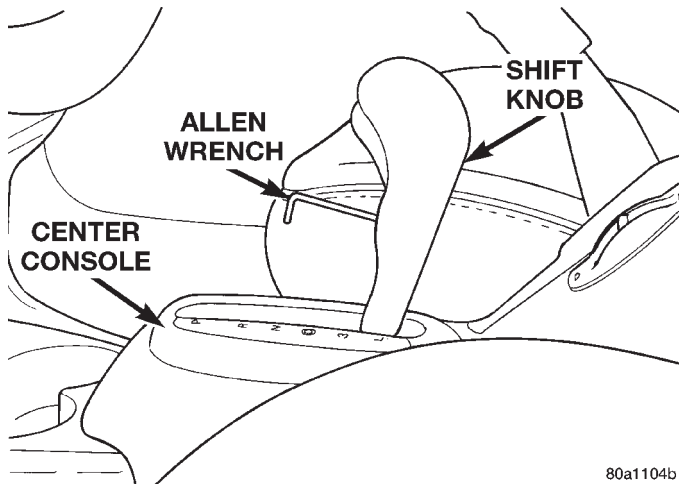
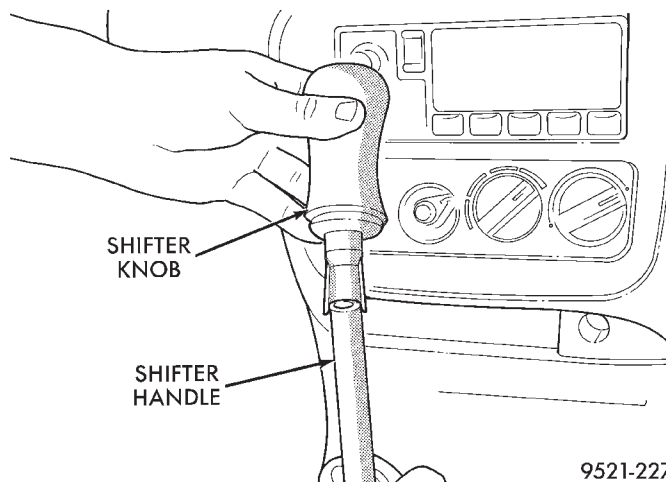

Fig. 184 Shift Knob Retaining Screw
Fig. 186 Gearshift Knob Removal
(2) If vehicle is equipped with an automatic transmission remove the shift knob from the shifter. The gear shift knob is attached to the shifter using a set screw (Fig. 184). Access to the set screw is from the front of the shift knob and is removed using a 2 mm allen wrench (Fig. 184).
- Remove the shifter knob from the shifter handle, by pulling the shifter knob straight up (Fig. 186).
(19) Install the shift knob on the shifter (Fig. 184) or (Fig. 186).